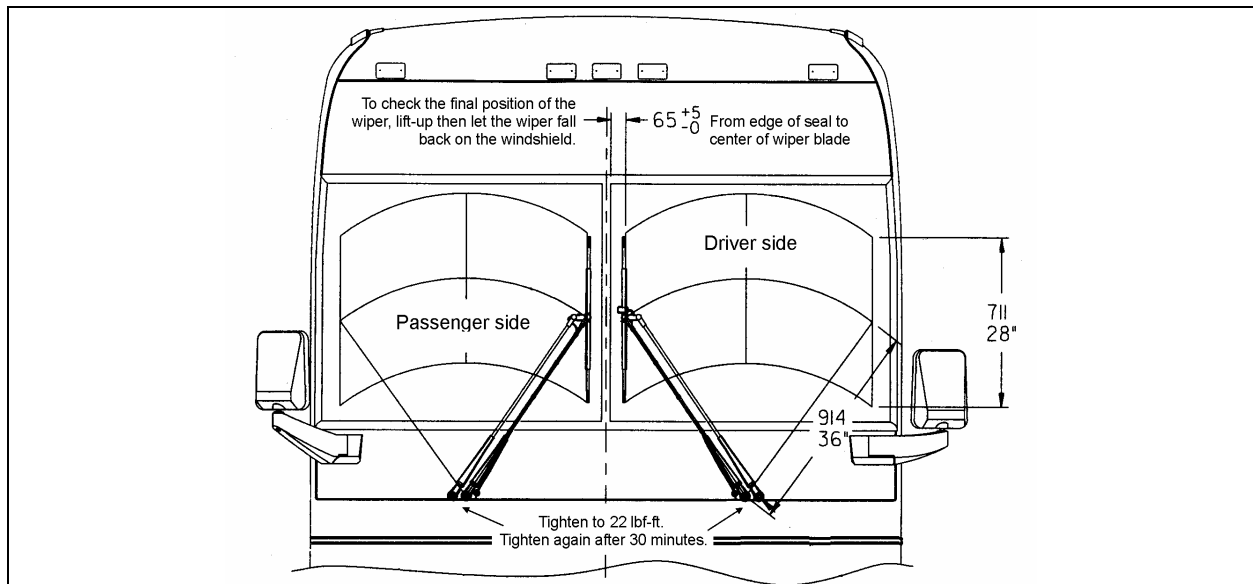

FIGURE 4: WIPER ARMS POSITIONING
8. Reinstall the panels. Install the wiper arms and position as shown in figure 4.